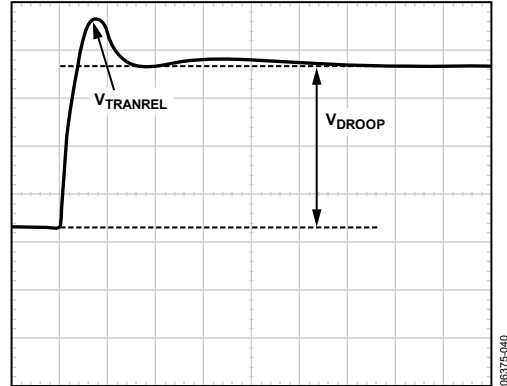

Figure 31. Transient Setting Waveform, Load Release
3. For load release (see Figure 31), if $V_{TRANREL}$ is larger than the value specified by IMVP-6+, a greater percentage of output capacitance is needed. Either increase the capacitance directly or decrease the inductor values. (If inductors are changed, however, it will be necessary to redesign the circuit using the information from the spreadsheet and to repeat all tuning guide procedures).